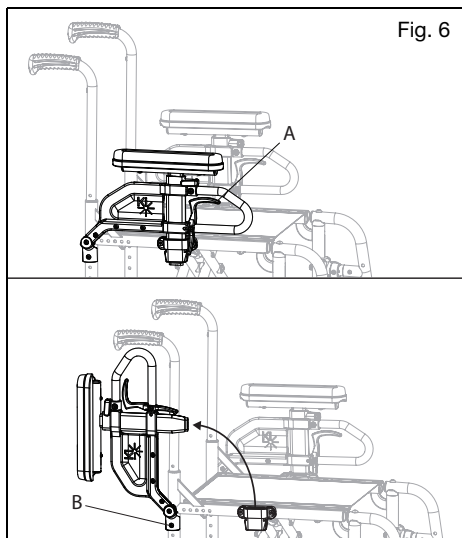

Fig. 6
The tension felt during the flipping of the armrest can be decreased or increased by tightening or loosening the bolt (Fig. 6:B).
- To flip back the armrest, pull the release lever (Fig. 6:A) up and lift the armrest assembly up and back.